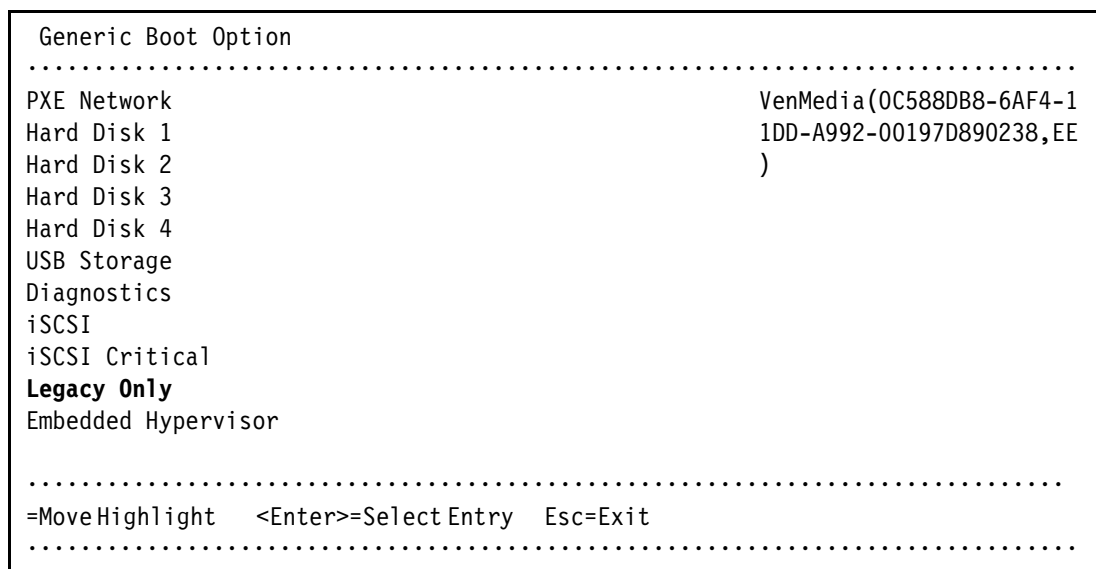

Figure 9-52 File Explorer panel
5. In the Generic Boot Option panel (Figure 9-52), highlight **Legacy Only**, and press Enter. Be sure you have also added the **CD/DVD Rom**.